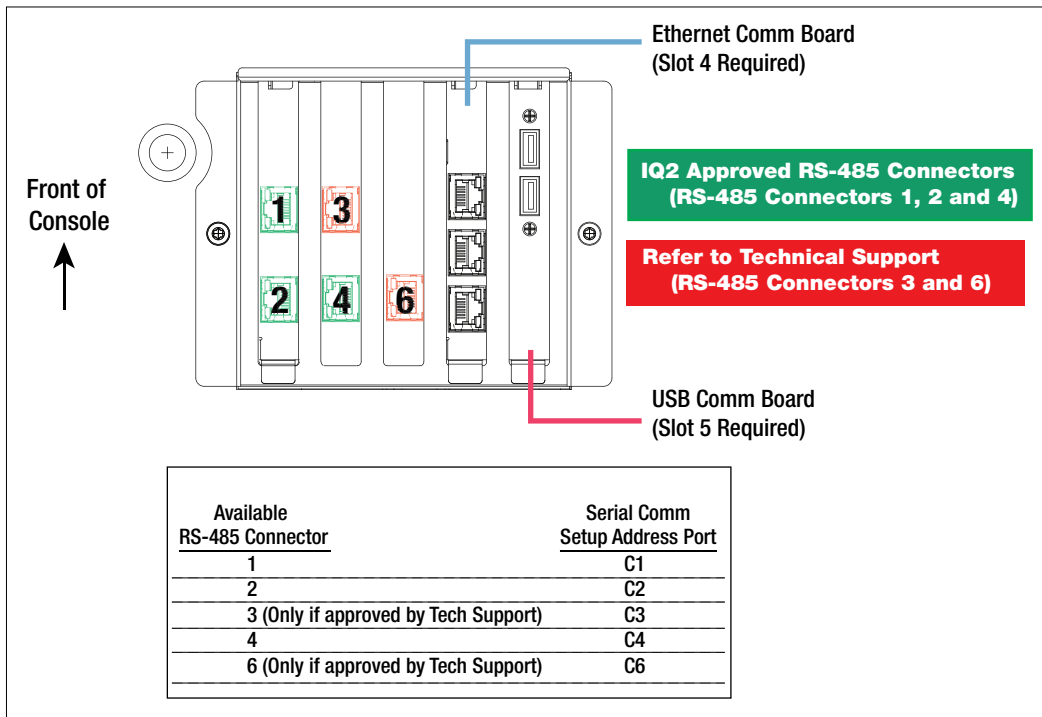

Figure 14. Approved TLS-450PLUS RS-485 Ports for IQ2 Communication
Figure 14 shows all possible RS-485 ports for IQ2 communication with the TLS-450PLUS.
! Use of RS-485 Ports 3 and 6 (Figure 14) must be approved by Veeder-Root Tech Support.
1. Install a properly configured RS-485 card into comm slot 1 or 2 (see installation example in Figure 14).